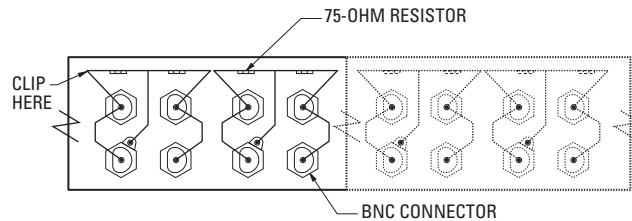

Figure 1. Rear Panel Internal View
- b. Looping Operation - To convert to looping operation, remove the cover. Locate the 75-ohm resistors at the rear of the BNC jacks. Use wire cutters to clip one of the resistor leads for each input that you want to loop. Refer to Figure 1. Replace the cover.